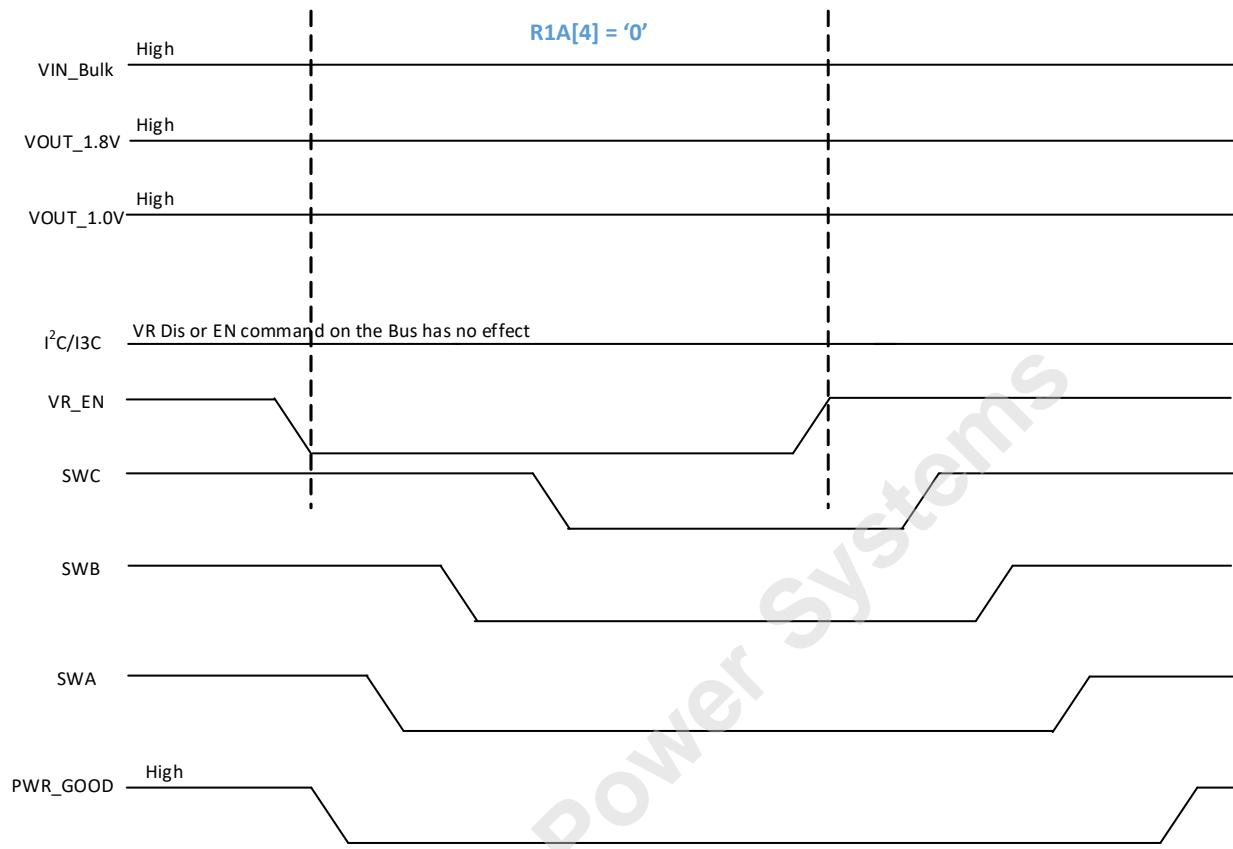

Figure 30 — Power Down with VR\_EN Pin; R1A[4]=0; Secure Mode; PWR\_GOOD Signal
1. The VR Disable command with VR\_EN pin transitions to low. The PMIC asserts PWR\_GOOD signal Low. The PMIC executes power off sequence config0 (Table 167, “Register 0x58”) to power off sequence config2 (Table 169, “Register 0x5A”) to preserve the appropriate voltage relationship as configured in the registers. The host can re-enable the PMIC’s output regulators by VR\_EN pin transition to High. The PMIC executes power on sequence config 0 to power on sequence config 2 registers and floats PWR\_GOOD signal after tPMIC\_PWR\_GOOD\_OUT timing parameter is satisfied. See Figure 30. The PMIC does not require power cycle.